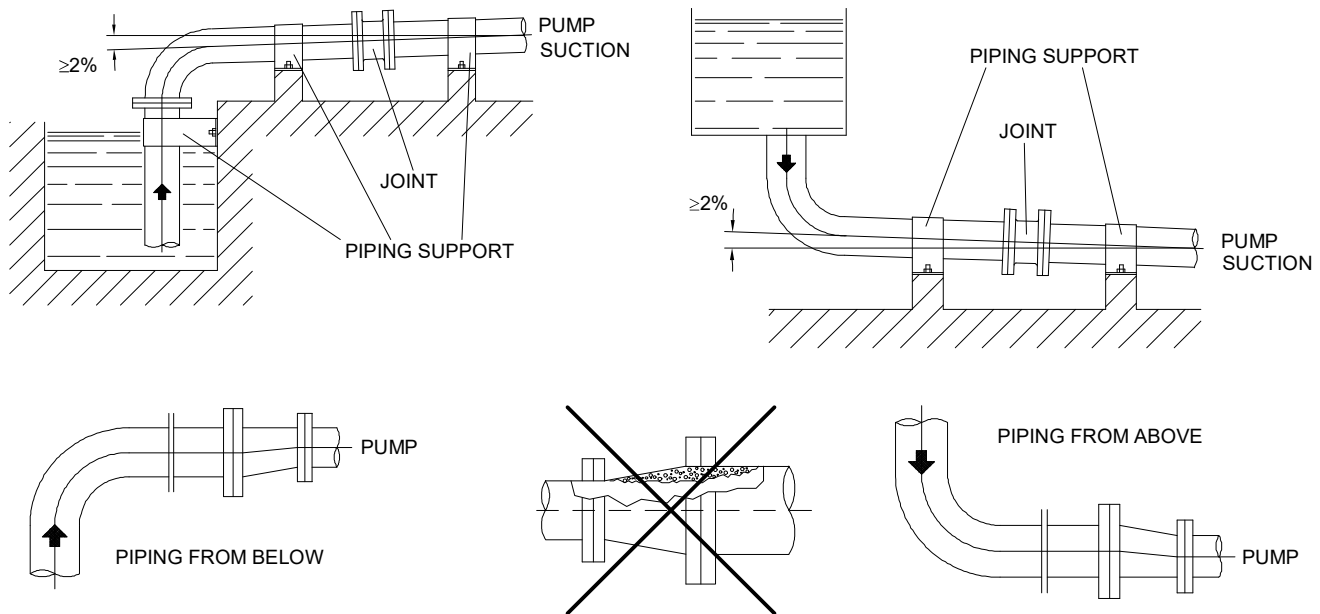

Fig. 12
9.2 - SUCTION AND DISCHARGE PIPING (see fig. 12)